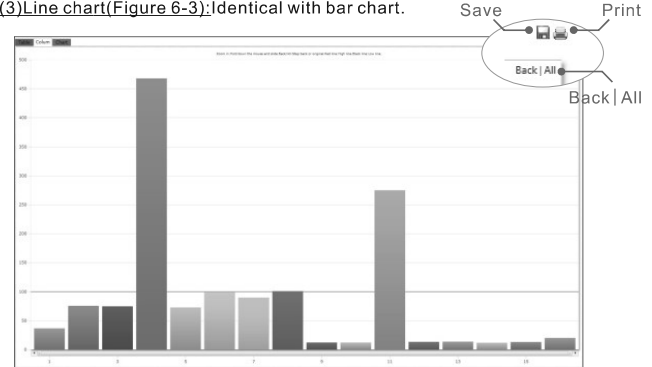

Figure 6-2
(2)Bar chart(Figure 6-2):
- ① Axis X denotes the number of times;Axis Y denotes the value of measurement.
- ② Red line:High standard line,Black line:Low standard line,Find the Selection